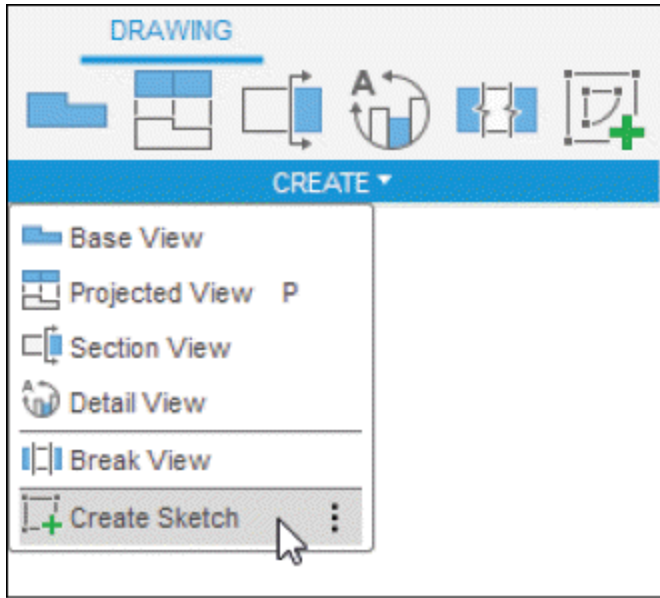
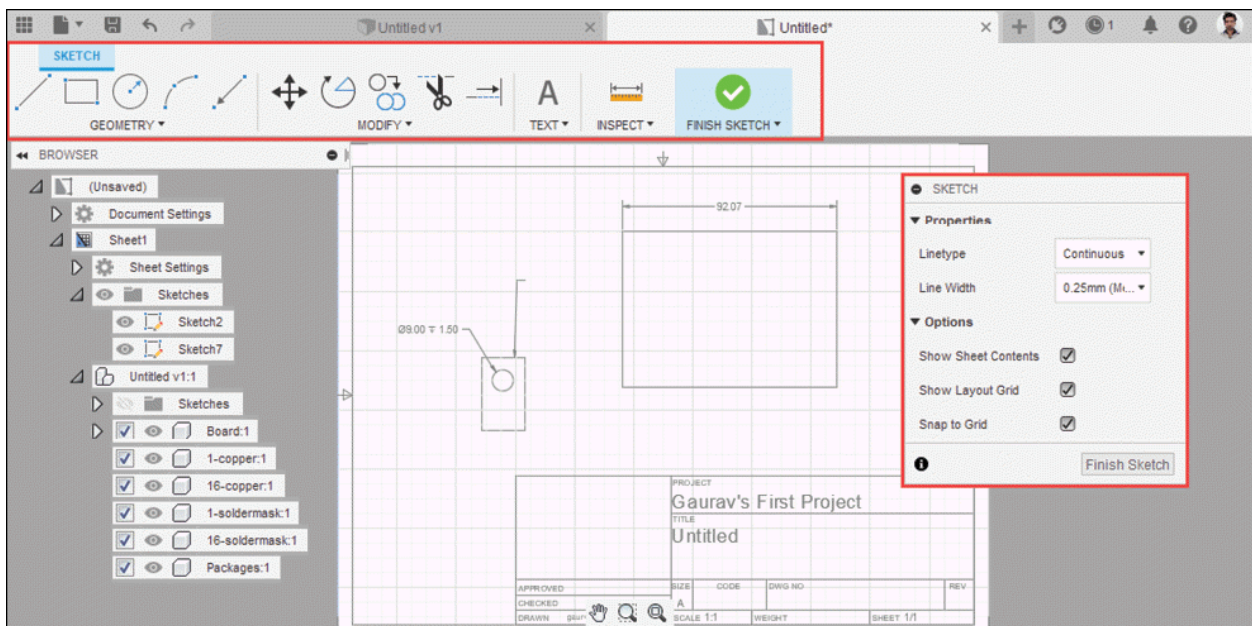

Figure-30. Create Sketch tool
Figure-31. SKETCH contextual tab with SKETCH dialog box
- Click on the **Create Sketch** tool from **CREATE** panel in the **Toolbar**; refer to Figure-30. The **SKETCH** contextual tab will be displayed along with **SKETCH** dialog box; refer to Figure-31.